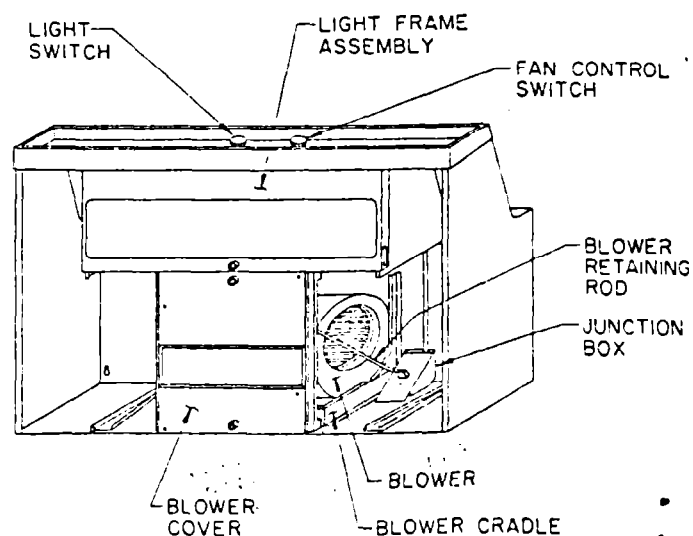

FIGURE 4
5. For an easier installation, remove the filters and the three assemblies shown in Fig. 4. This reduces the weight about 40%. The blower cover and light frame assembly are held into place with thumb screws. To remove the blower assembly, first unplug the blower power supply cord from the junction box. Remove the packing screw from the blower retaining rod, then pull the blower retaining rod to one side, freeing it from between the bumps on the blower housing.